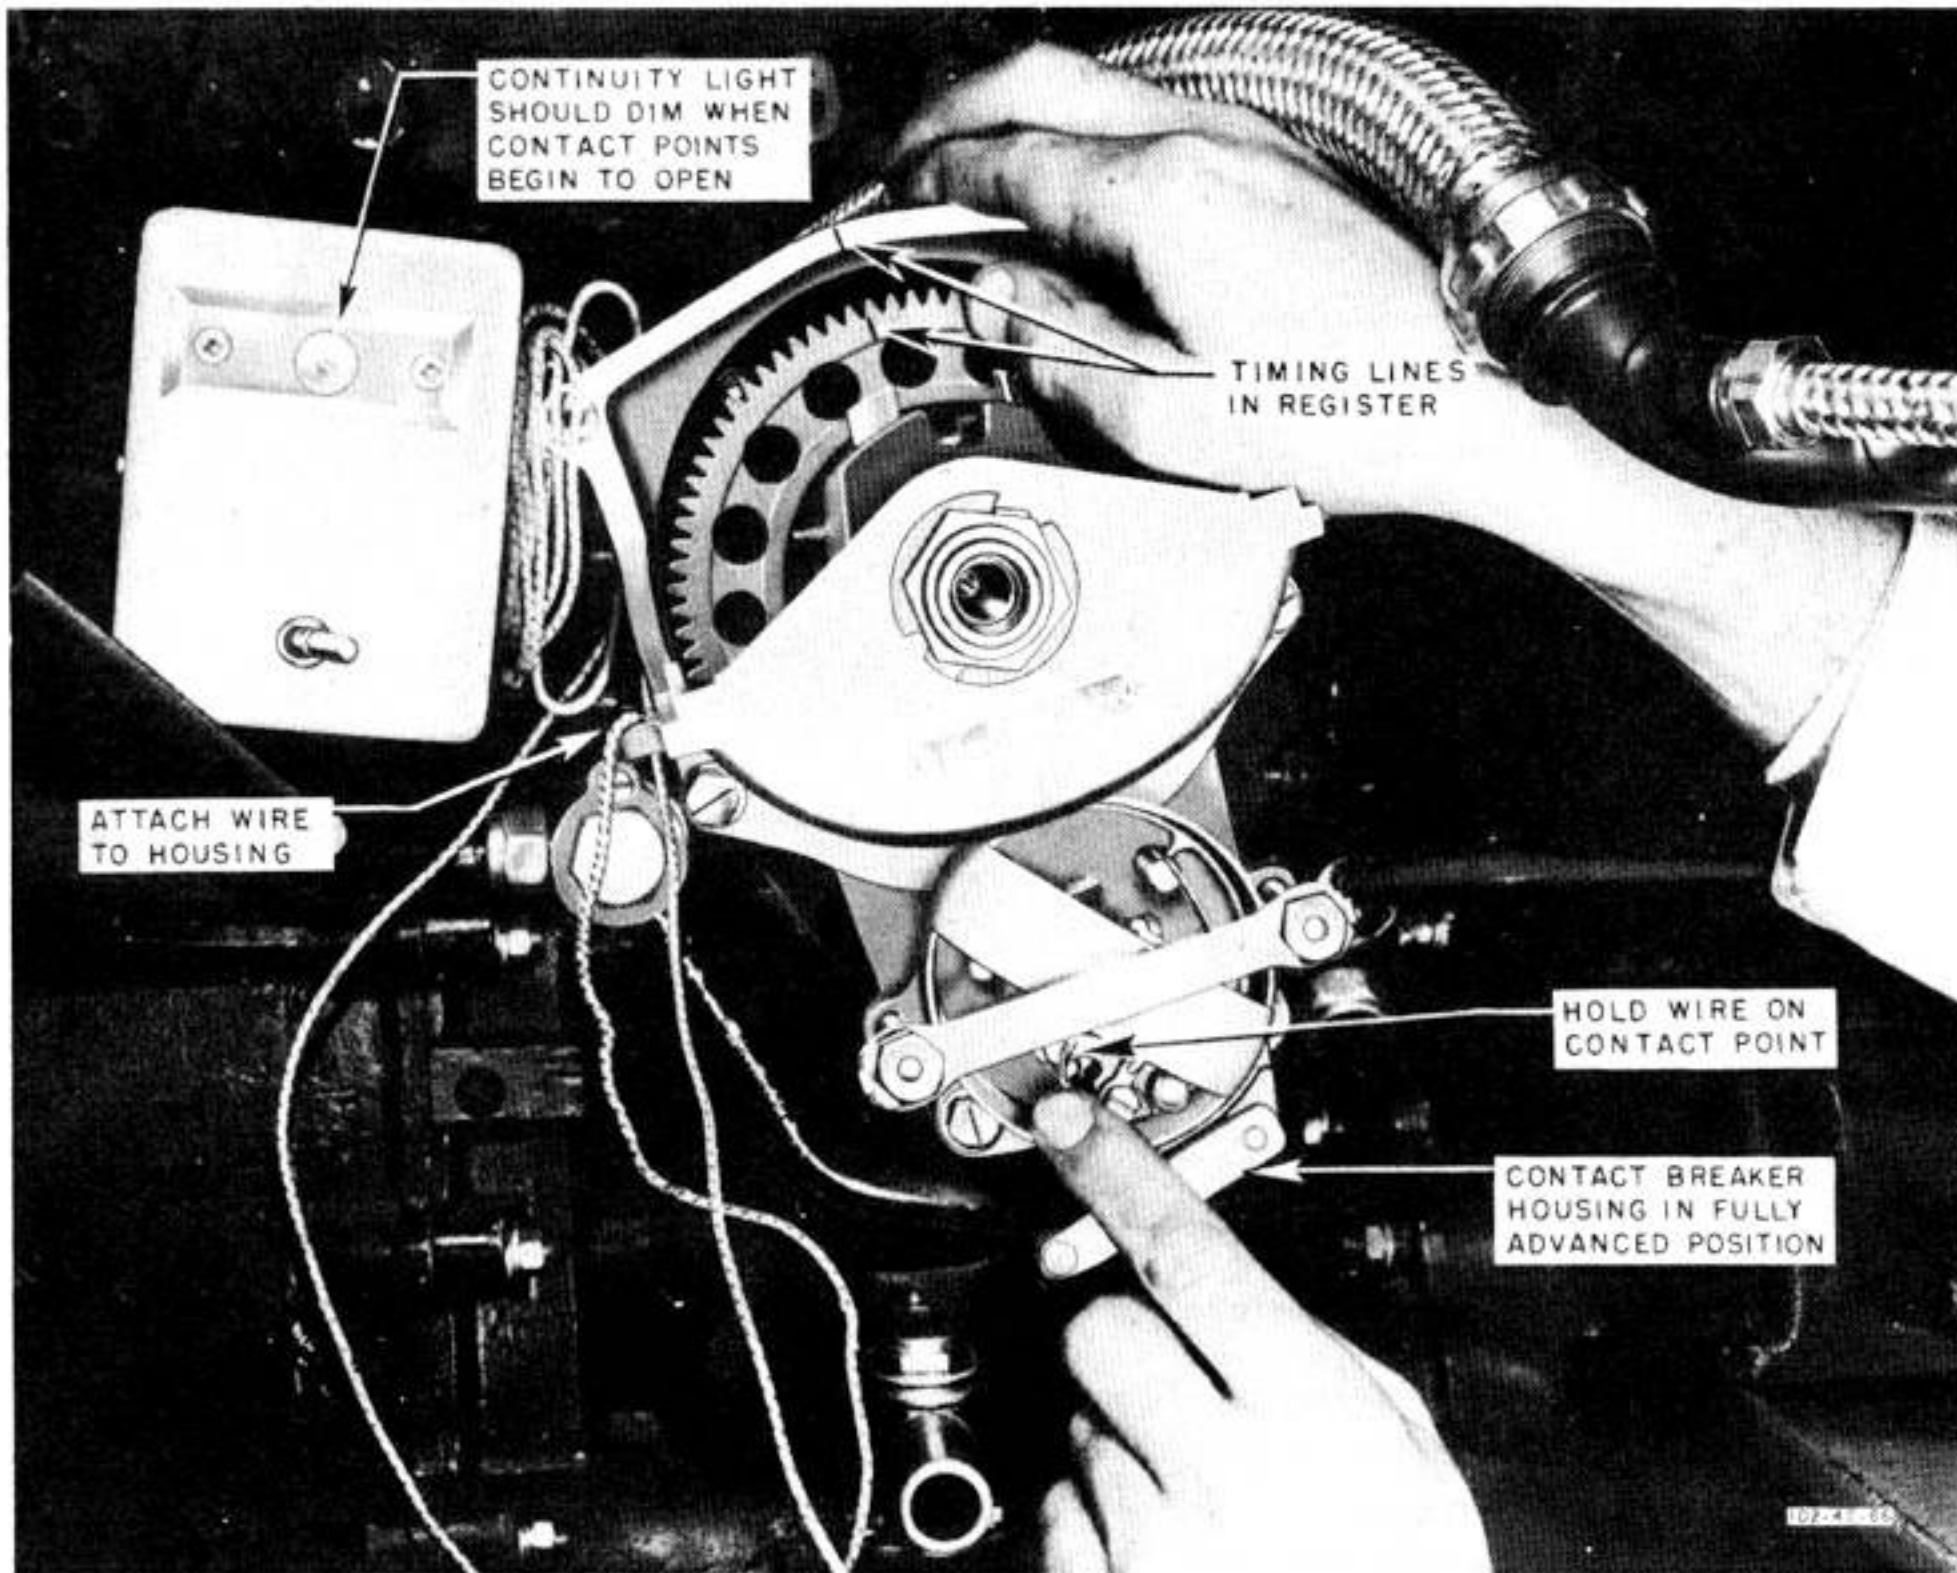

Figure 190—Checking Magneto Timing
e. When the proper engagement has been obtained, temporarily tighten the magneto mounting stud nuts; then check for exact ignition timing (*figure 190*) as follows:
(1) Attach one continuity light wire to magneto housing, and hold the other wire to the contact point in breaker housing.
(2) Turn crankshaft backward about $\frac{1}{4}$ revolution; then turn crankshaft slowly in direction of normal rotation until contacts are just opening as determined by dimming of timing light. The light should go on and off when rotor is rocked with thumb as shown in *figure 190*.